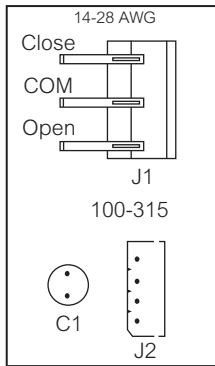

Figure-1 Typical Wiring of Three-Wire Floating Non-Spring Return Valves.
1. Remove the cover from the actuator, then connect the power and control wiring to the terminal block ( Figure-1 and Figure-3).